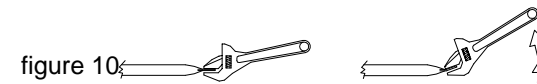

figure 10
STEP 6: Set the mast vertically with the longer end of the mast tube upwards, and assemble the larger diameter braces to the highest point on the mast. Extend the braces to the appropriate position. Assemble the brace and fasten to the cleat bracket as per figure 7. Ensure that the drain holes in the braces are not blocked by sealant. Note: The angle of the flats on the ends of the braces can be adjusted to suit individual applications by simply bending with a shifting spanner. (see fig 10)